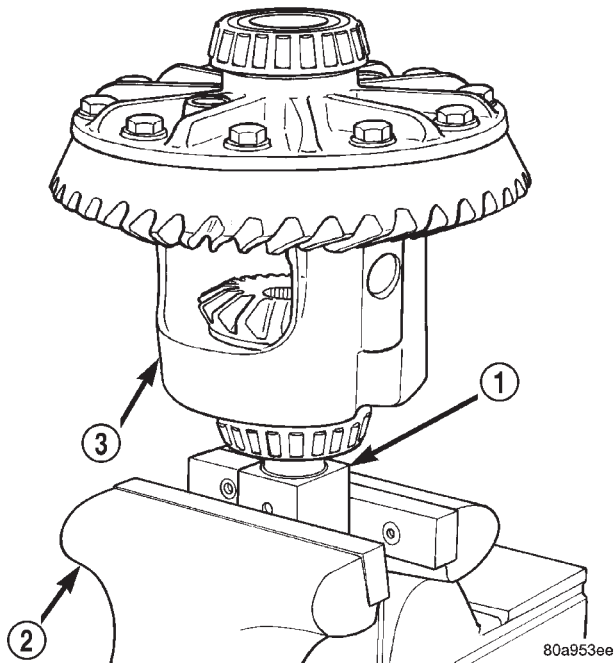

Fig. 39 Differential Case Holding Tool
- (1) Clamp Side Gear Holding Tool 8138 in a vise.
- (2) Position the differential case on Side Gear Holding Tool 8138 (Fig. 39).
- (3) Remove ring gear, if necessary. Ring gear removal is necessary only if the ring gear is to be replaced. The Trac-*lok*™ differential can be serviced with the ring gear installed.